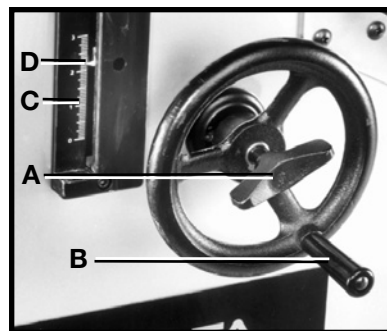

Fig. 22
The spindle can be raised or lowered by loosening lock knob (A) Fig. 22, and turning handwheel (B). To raise the spindle height, turn the handwheel (B) clockwise. To lower the spindle height, turn handle (B) counterclockwise.
The scale (C) Fig. 22 indicates the spindle travel range from 0" to 3" and is marked in 1/16" increments. Minor cutter height adjustments can be measured using the pointer (D) along the scale (C).
**⚠ CAUTION** ALWAYS TIGHTEN LOCK KNOB (A), FIG. 22 AFTER ADJUSTING SPINDLE HEIGHT.